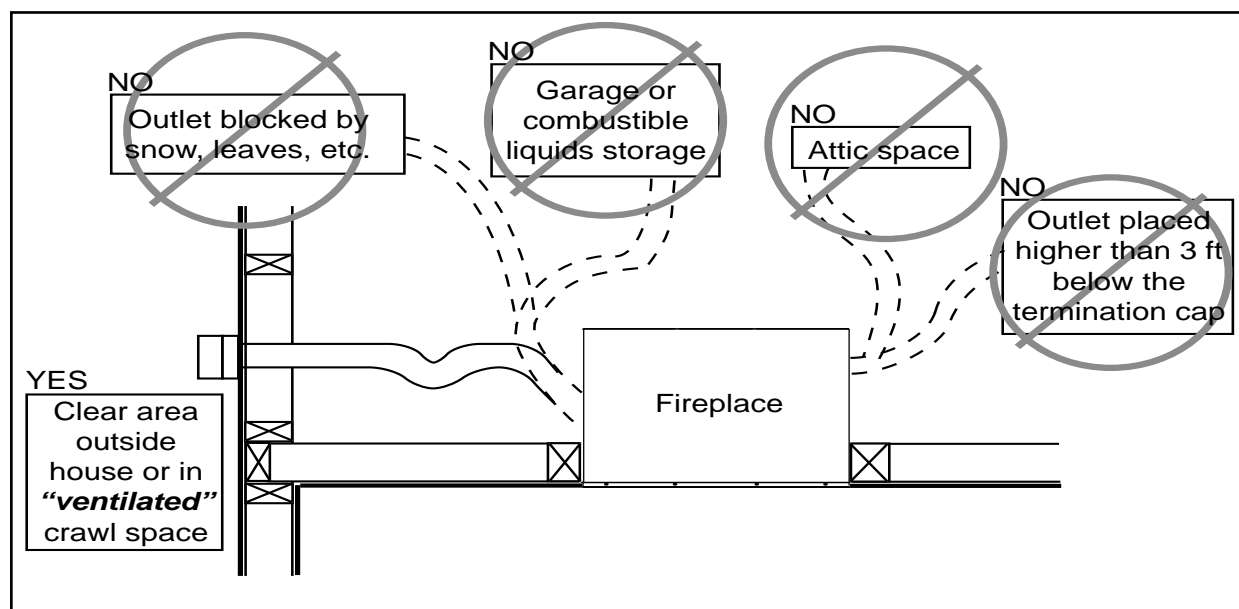

Figure 42.2 - Outside Combustion Air Placement
- Locate the air inlet in a clear area, preferably into prevailing wind during the heating season. **Figure 42.2 on page 42.**